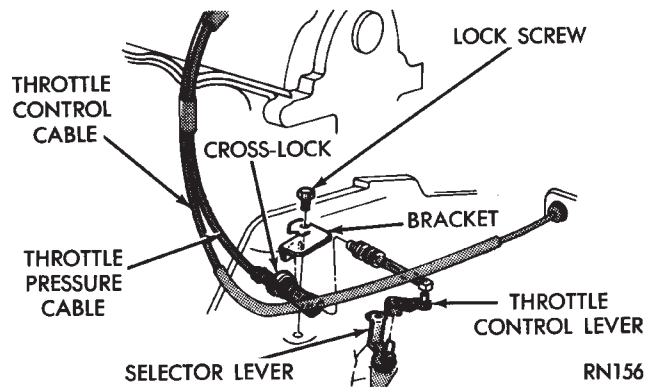

Fig. 8 Throttle Pressure Cable (Typical)
(1) Perform transaxle throttle pressure cable adjustment while engine is at normal operating temperature.
(2) Loosen cable mounting bracket lock screw.
(3) Bracket should be positioned with both bracket alignment tabs touching the transaxle cast surface. Tighten lock screw to 12 N•m (105 in. lbs.) see Figure 8.
(4) Release cross-lock on the cable assembly (pull cross-lock upward) see Figure 8.
(5) To insure proper adjustment, the cable must be free to slide all the way toward the engine, against its